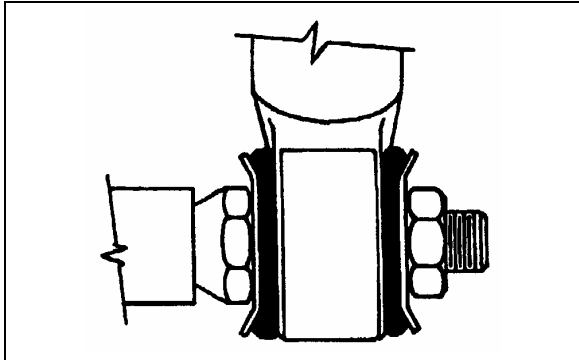

FIGURE 8: TYPICAL SHOCK ABSORBER SETUP 16009
3. Place the inner washers (with washer convex side facing the shock absorber rubber bushing) on each shock absorber pin (Fig. 8).